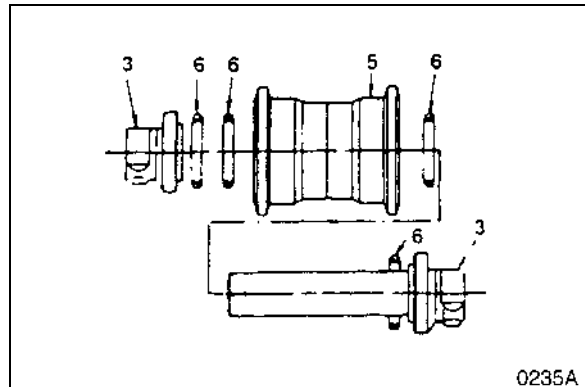

Figure 33
4. Detach O-rings (2, Figure 33) from the axle.
5. Separate group seals (6, Figure 33) from the collar and roller (5).
6. Detach collar (3, Figure 33) and O-rings (2) from the axle, using a press.